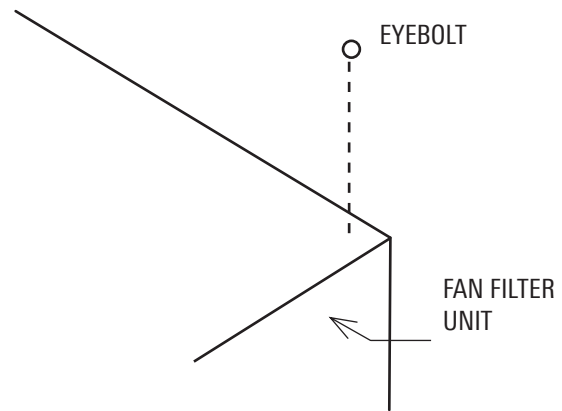

Figure 2: Hanger Supports
Step 2. If using rigidly supported grid (usually 2" (50 mm) or wider), raise unit through ceiling and lower onto the gasketed grid. If using a flexible grid (typically supported with wires), the unit must be secured to an engineered design support system with s-hooks and chain. Screw the four eyebolts into the nutserts on the lid assembly before lifting into an overhead position (see Figure 2)